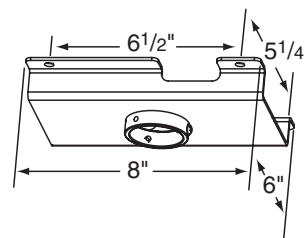
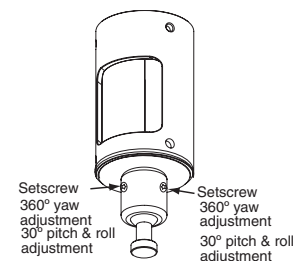

Figure 2
Figure 3
- ③ Use mounting plate to mark ceiling (see Fig. 2).
- ④ If appropriate, run wiring down through pipe and out through opening in Bracket Adapter.
- ⑤ Attach plate to ceiling. If using optional Angled Mounting Plate, attach Ceiling Mounting Plate to Angled Mounting Plate using 1/4"-20 x 5/8" long hex head screws (provided), then attach Angled Ceiling Mounting Plate to ceiling (hardware for ceiling attachment not included).
- ⑥ Install Universal Projector Bracket on projector if applicable (see separate instructions). Then, attach bracket and projector to Accuset ball joint (see separate instructions) and adjust ball joint as necessary (see Fig. 3)